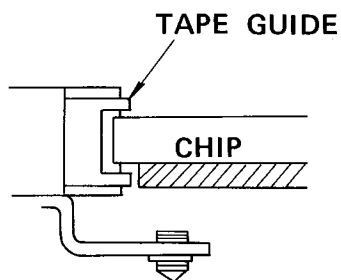

FIGURE 2
- (1) Adjust screw (A) so that the chip of the head gauge (M-300) does not touch the tape guide as shown in figure 2.